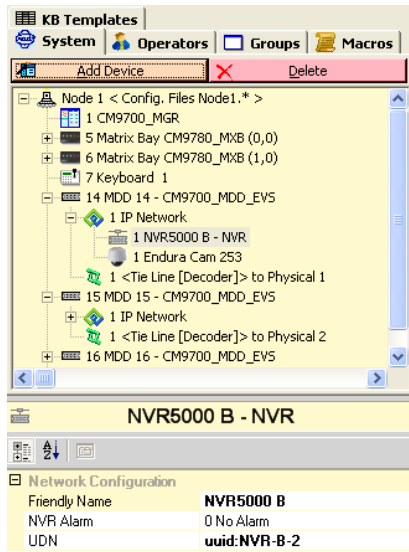

Figure 37. Viewing NVRs in the Device Tree
- Configure each NVR with a unique identifier by completing either or both of the following fields in the CM9700-MGR (to complete the fields, click the NVR, and then click the appropriate field in the properties box; refer to Figure 37):